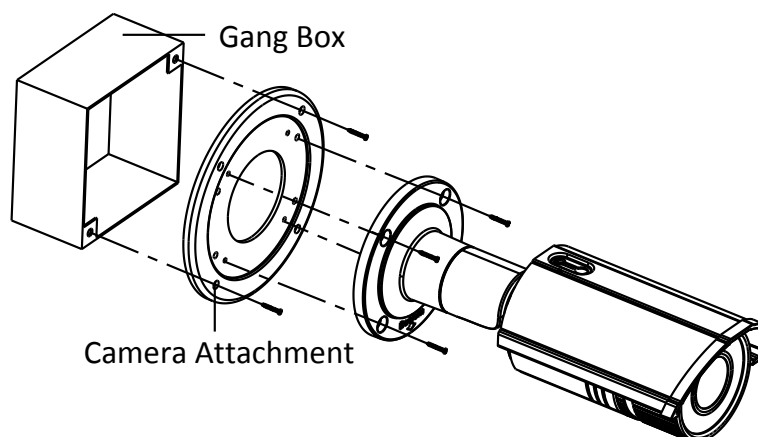

Figure 4-31 Secure the Camera
3. Secure the camera to the camera attachment with screws. Refer to the Figure 4-31.